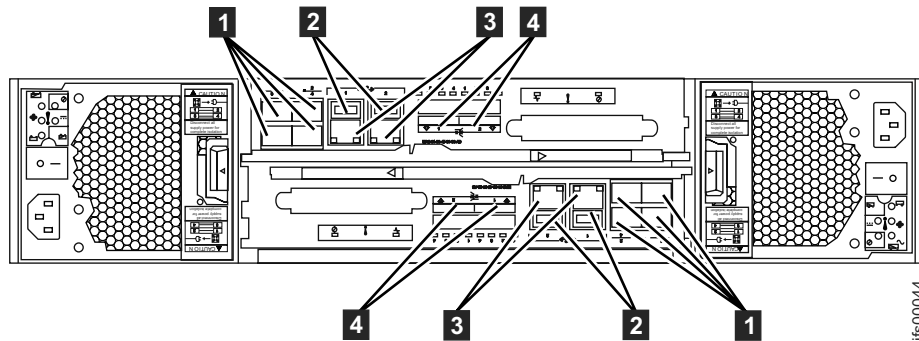
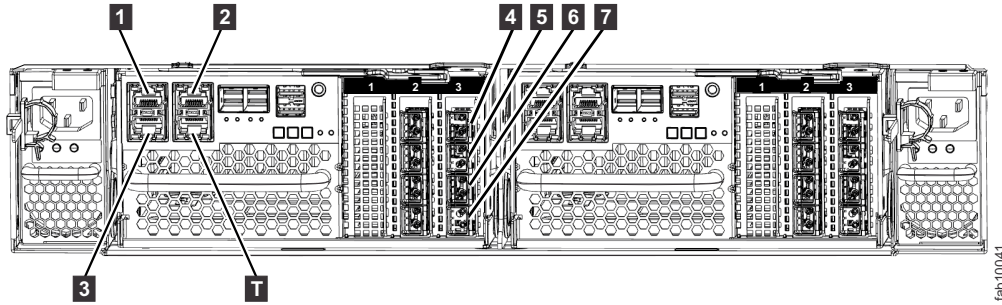
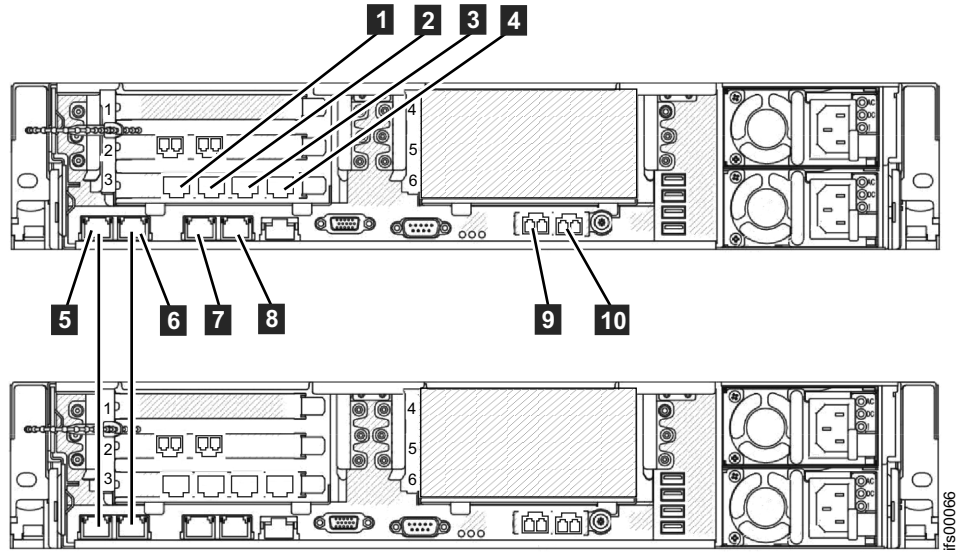

Figure 49. Control enclosure Ethernet network connections.
Figure 52. Ethernet ports when an optional 10 Gbps Ethernet interface card is present in PCI slot 3
Figure 53. File module Ethernet connections.
This task assumes that your initial planning has determined where the Ethernet cables are to be located. The Storwize V7000 Unified control enclosure requires at least one and a maximum of two 1 Gbps Ethernet connections to each node canister. Refer to Figure 49 on page 88, Figure 50 on page 88, Figure 51 on page 89, and Figure 52 on page 90; also Table 44 on page 89 and Table 45 on page 90. For the file modules, the first two 1 Gbps Ethernet ports labeled **5** and **6** in Figure 53 on page 91 are used for internal communications between the file modules. The third and fourth 1 Gbps Ethernet ports are used for management
Figure 52 on page 90 shows the additional Ethernet ports when an optional 10 Gbps Ethernet interface card is present in PCI slot 3.
If you encounter that situation, change the service IP addresses on the new nodes before connecting the Ethernet cables. For details, see Figure 53 on page 91 or see the *Storwize V7000 Unified Problem Determination Guide* PDF on the DVD for further information about setting service IP addresses using a USB flash drive.
- Connect an Ethernet cable from Ethernet port 1 on the first file module to the first Ethernet port on the second file module. Refer to Figure 53 on page 91 for port locations.
You have two 10 Gbps Fibre Ethernet ports available for host connections from each file module. The ports are on the PCI card located in slot 4. Connect your network cables to the Ethernet ports in these slots as applicable. Refer to Figure 53 on page 91.